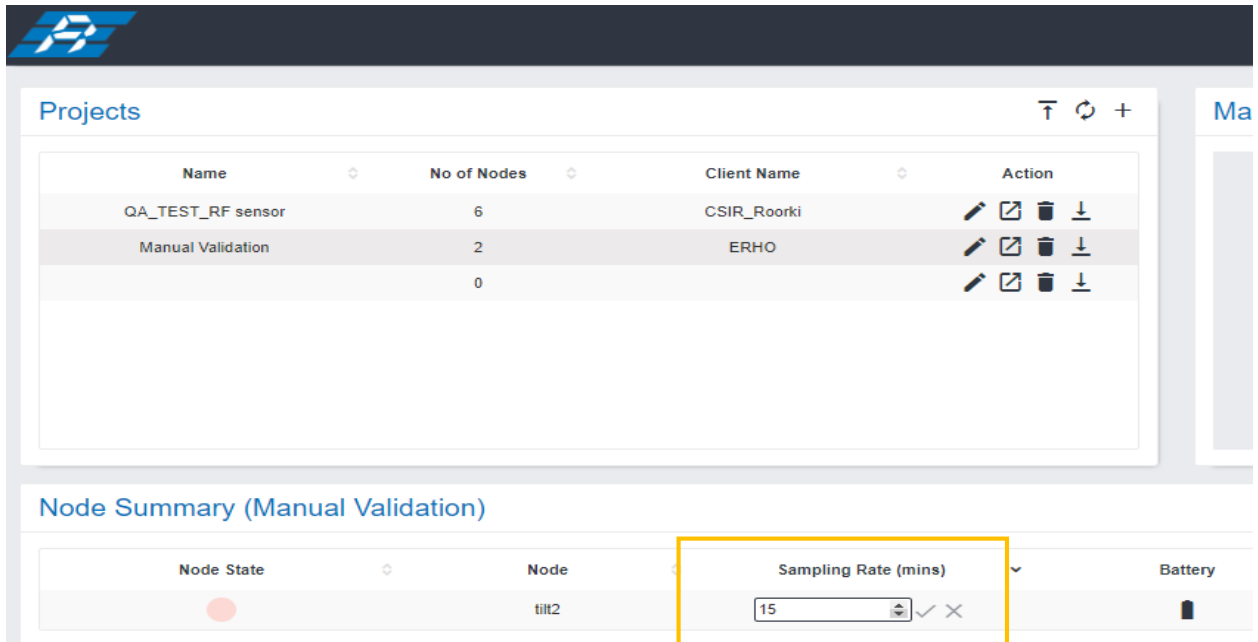

Figure 3-24
- Set the desired “Sampling Rate” for all the nodes. The rate can be reset by the user by clicking the Up and Down button. Once the desired rate is set, click on the tick button to complete the step. (Refer to figure 3-24)